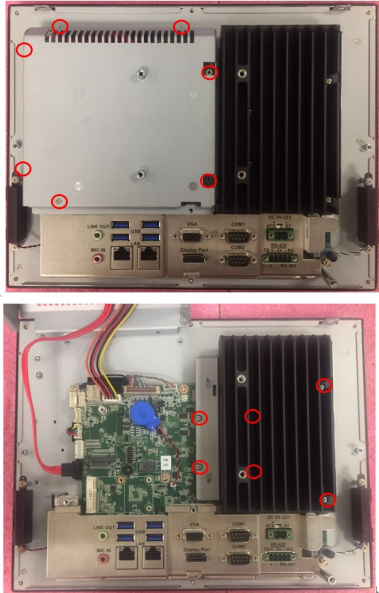

Figure 2.8
3. Remove the yellow warning tag first. Then remove the screws as indicated in the red circle. (See Figure 2.8), and take out the strength plate & CPU heat sink.